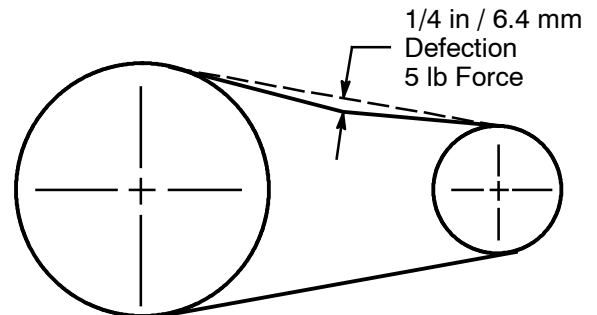
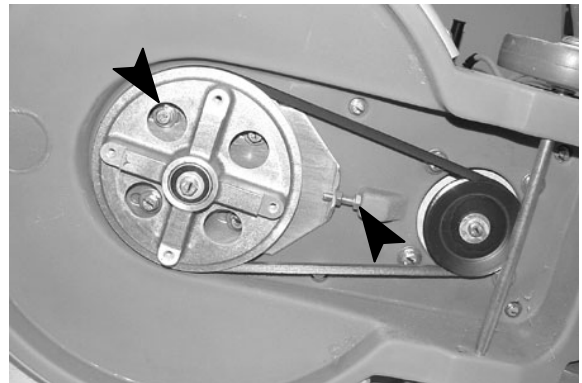

FIG. 7
FIG. 8
- Once a month, check the tension of the drive belt. At mid- point of belt, the belt tension should have a 1/4 in / 6.4 mm deflection at 5 lb of force (Figure 7). To tighten belt, remove the pad driver and loosen the (4) pad driver pulley bracket hex head screws. Loosen the jam nut on the tension bolt and turn bolt clockwise until belt is properly adjusted, then retighten the pulley bracket screws and jam nut (Figure 8).